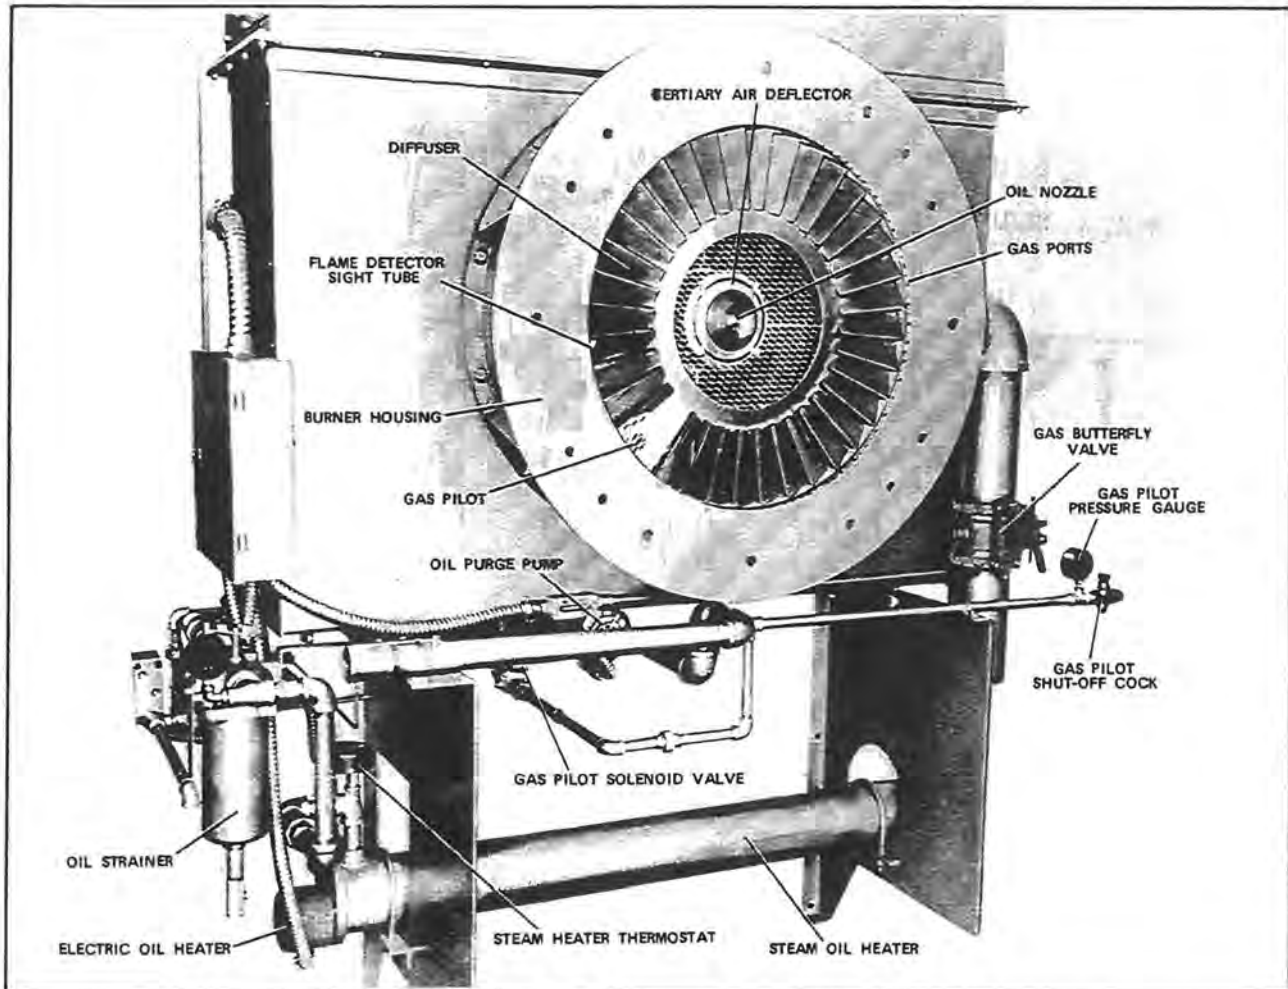

FIGURE 1-3 REAR VIEW — MODEL CN BURNER
(20) Diffuser (figure 1-3): This is a circular plate located at the furnace end of the burner drawer to impart a rotary swirling motion to combustion air immediately prior to its entering the flame, thus providing a thorough and efficient mixture with the fuel.
- (1) **Gas Pilot Valve (figures 1-3):** A solenoid valve energized to open during ignition period to admit fuel to pilot. It is closed after main flame is established. The sequence of energizing and de-energizing is determined by the timing of the programming control.
- (2) **Gas Pilot Shutoff Cock (figure 1-3):** For manually opening or closing the pilot gas supply.
(4) Gas Pilot Pressure Gauge (figure 1-3): Indicates gas pressure to pilot.
(6) Butterfly Gas Valve (figure 1-3): Valve's butterfly disc is operated by a connecting linkage actuated by the gas modulating cam to regulate the rate of gas flow to the burner.
- (17) Fuel Oil Strainer (figure 1-3): Provided to prevent foreign matter from entering the burner system.
- (18) Oil Supply Pressure Gauge (not shown): Indicates fuel oil pressure in the oil heater and supply pressure to the fuel oil controller's pressure regulator.
- (19) Gas Pilot: See Section D for description of the various components.
- (2) Oil Heater (Electric) (figure 1-3): Used for heating sufficient fuel oil for low fire flow during cold starts before steam is available for heating. It is housed in the steam heater.
- (3) Oil Heater (steam) (figure 1-3): Heats oil with steam from boiler.
- (5) Oil Heater Steam Thermostat (figure 1-3): Senses fuel oil temperature and controls the opening and closing of the steam heater valve to maintain the selected temperature.
- (14) Purge Pump (figure 1-3): A low capacity pump which runs each time the oil solenoid valve cuts off supply to the nozzle. It clears the nozzle and lines to the nozzle clear of fuel oil.